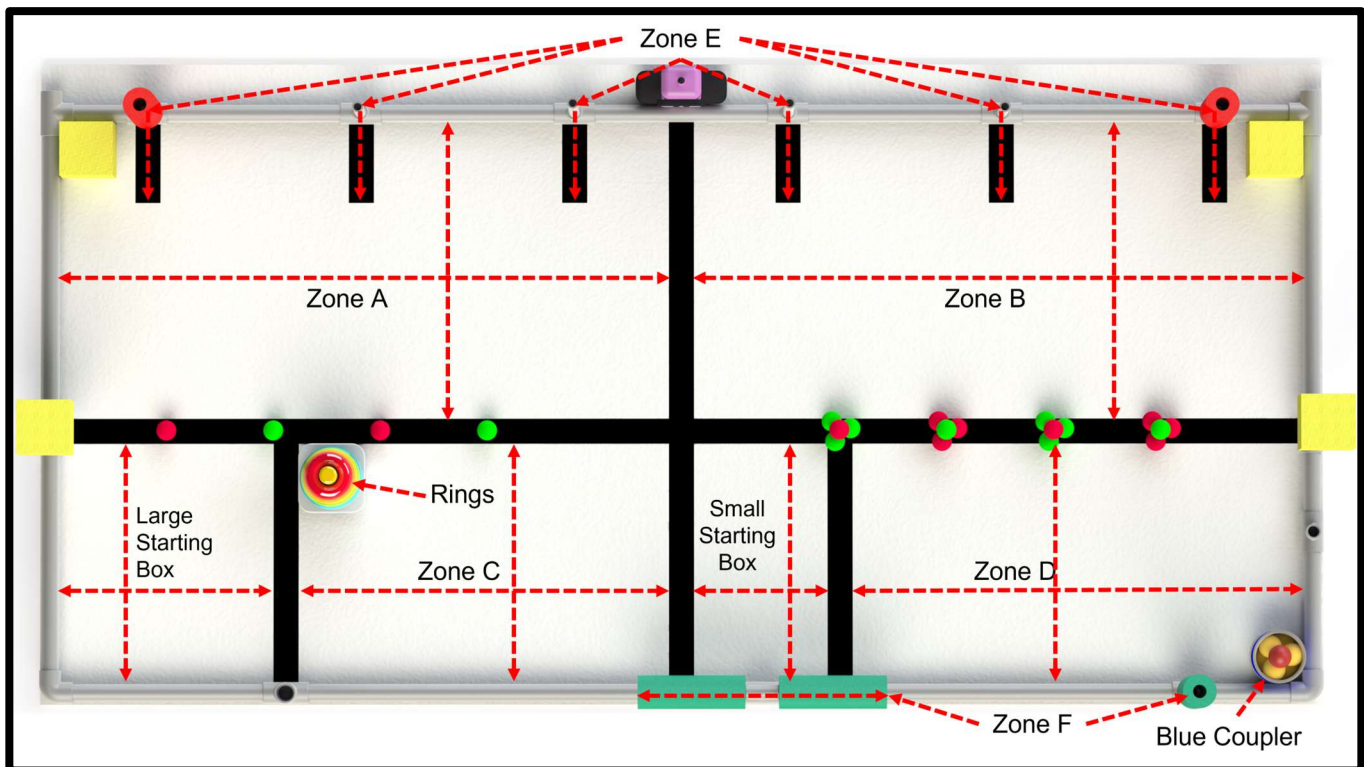

Figure 2 - Game Areas
- *Red Pool Noodles* – Will start inserted onto the short posts in *Zone E* (refer to Figure 2 & 3)
- *Green Pool Noodles* – Two will start inserted onto each end of the post in *Zone F* on the outside PVC of the *Small Starting Box*. One green noodle will start inserted on the remaining PVC post in *Zone F* that sits on the border of *Zone D* (refer to Figure 2 & 3)